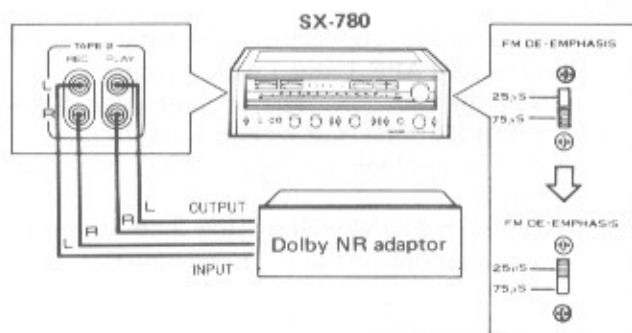

Fig. 14
1. As shown in Fig. 14, connect the Dolby NR adaptor to the TAPE 2 jacks (REC, PLAY) on the receiver.